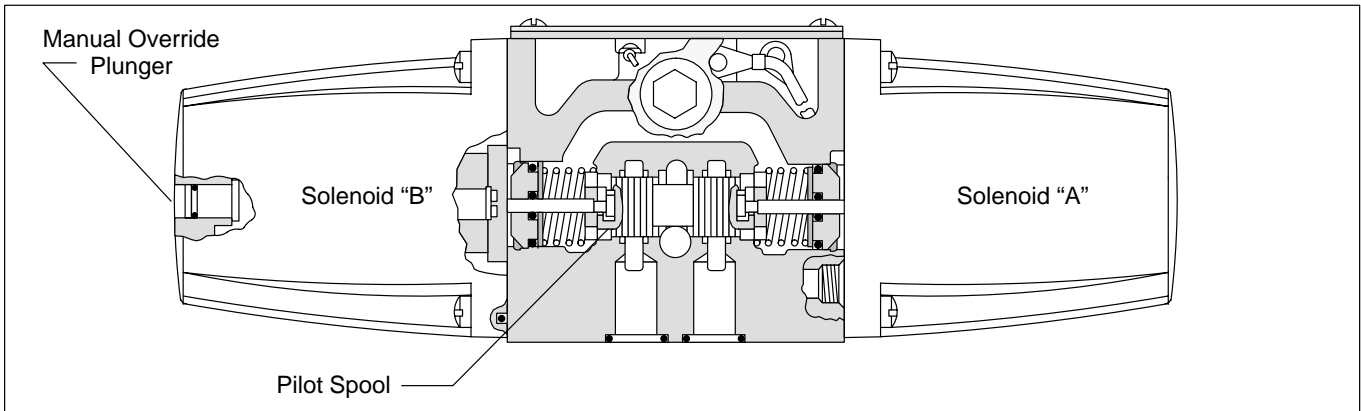

Figure 13c. DG4S4-01-50 Pilot Valve, Sectional View
c. **Air Gap Solenoids:** DG4S4-01 pilot valves are usually equipped with air gap solenoids. Air gap solenoids are isolated from system fluid and can be removed and replaced without disturbing the system. A push pin and sliding seal arrangement couple the solenoid to the valve spool (see Figure 13c).